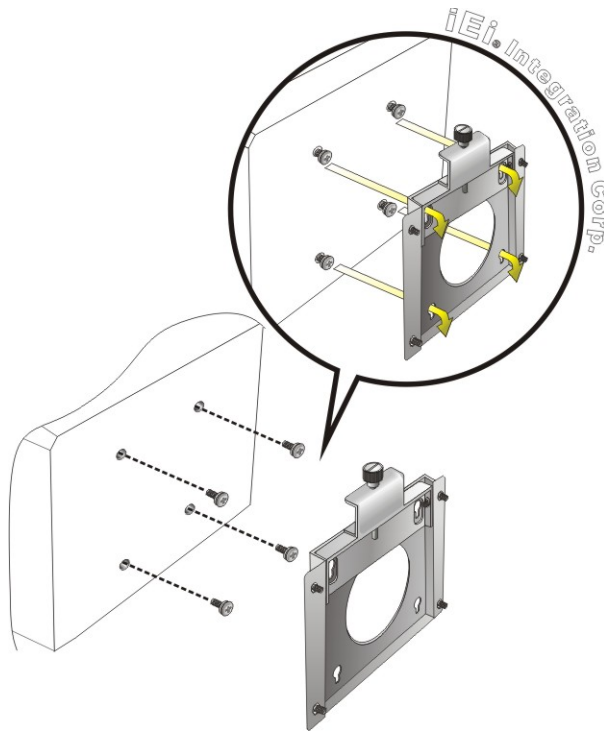

Figure 3-7: Chassis Support Screws
- Step 6:** Insert the four monitor mounting screws (M4*6) provided in the wall mounting kit into the four screw holes on the rear panel of the IOVU-210AD-RK39 and tighten until the screw shank is secured against the rear panel (**Figure 3-7**).
- Step 8:** Carefully insert the screws through the holes and gently pull the monitor downwards until the monitor rests securely in the slotted holes (**Figure 3-7**). Ensure that all four of the mounting screws fit snugly into their respective slotted holes.